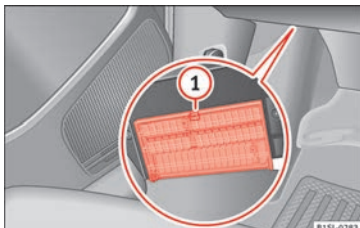

Fig. 82 Below the driver side dash panel: fuse box cover.
- **Opening:** Press the unlock button » **Fig. 82** until it is possible to open the cover. Fold the cover down.